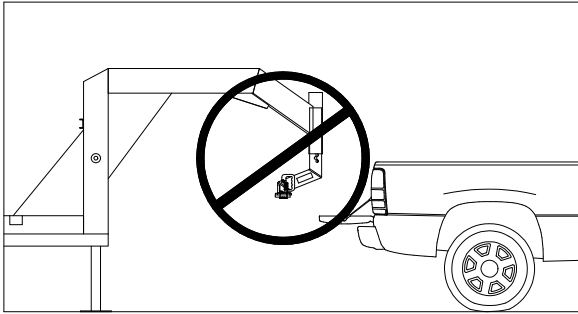

Figure A6: Coupler orientation warning.
- ⚠ WARNING:** Do not reverse the coupler so that the trailer sleeve is forward of the ball, see Figure A6. When installed correctly the ball coupler must be closer to the truck cab than the coupler sleeve. Towing with the coupler reversed can lead to property damage, serious injury, and death.